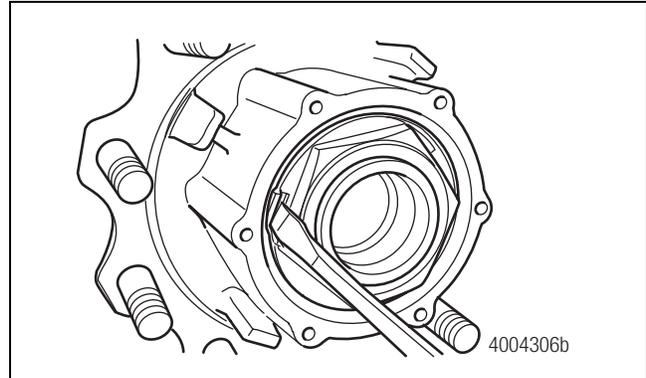

Figure 6
1. Use a screwdriver to release the stakes from the stake washer flange. Figure 6.